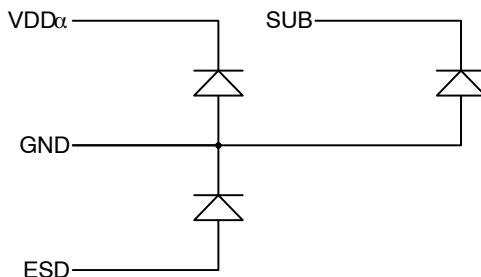

Figure 16. External Diode Protection
4. The image sensor can be protected from an accidental improper ESD voltage by current limiting the SUB current to less than 10 mA. SUB and VDD must always be greater than GND. ESD must always be less than GND. Placing diodes between SUB, VDD, ESD and ground will protect the sensor from accidental overshoots of SUB, VDD and ESD during power on and power off. See figure 16.